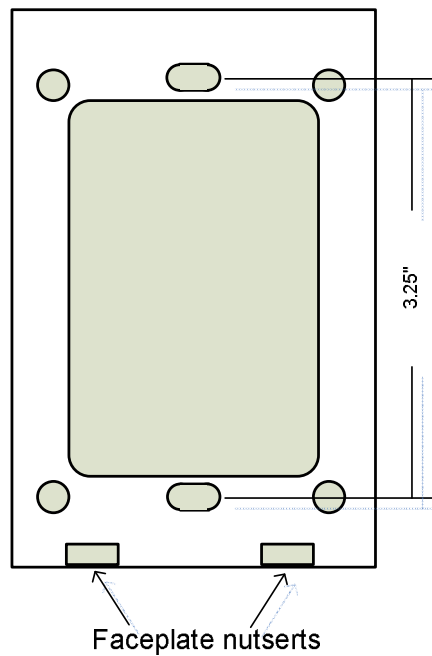

FIGURE 2
2. Use appropriate hardware to mount wall bracket aligned with the hole in the wall. Make sure the smooth side of the wall bracket is facing the wall and the rib side is facing out. Also make sure to orient the wall bracket with the faceplate nutserts facing down. See Figure 2.